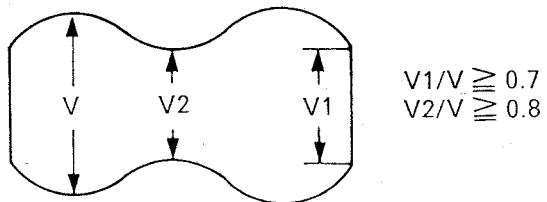

Fig. M13 Spec. of Envelope Figure
- Turn the Tracking VR and adjust for maximum RF envelope. If the RF envelope does not meet these specs, V1/V 0.7, V2/V 0.8, then repeat steps 1-9 of item 3-2-5. again. (Fig. M13)